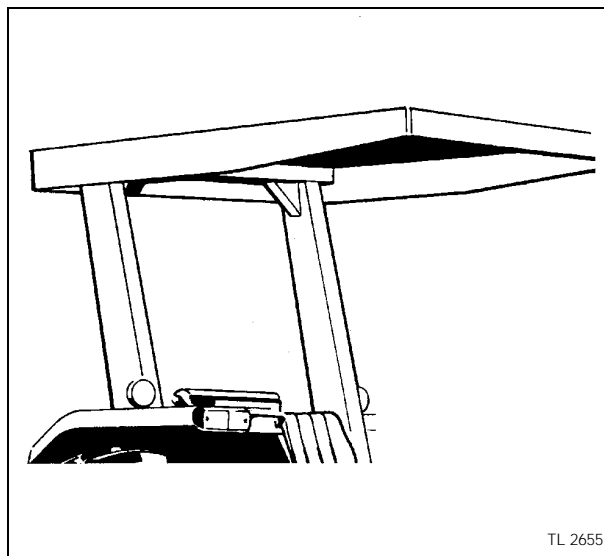

Fig. 10
- ROPS, FOPS (Falling Object Protective Structure), protective enclosure or protective screens (Fig. 10). Remember FOPS are protection from light falling objects and are not intended as protection from large falling objects such as large round bales or fence rails.